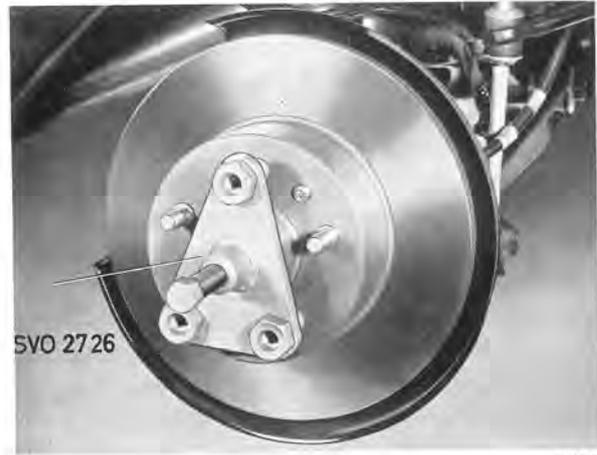

Fig. 6-18. Removing front wheel hub
2. Remove the grease cap with tool 2715, see Fig. 6-17. Remove the split pin and castle nut. Pull off the hub with puller 2726, see Fig. 6-18. If necessary pull off the inner bearing from the stub axle tool 2722, see 6-19.